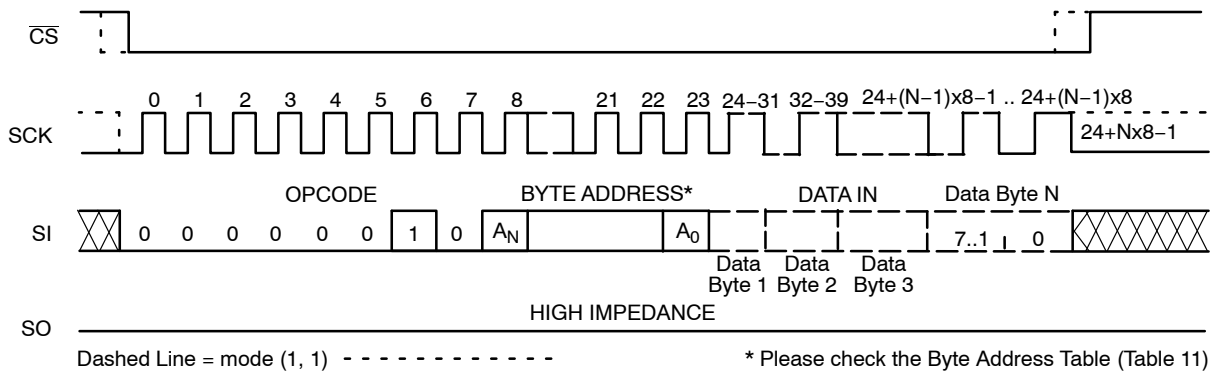

Figure 6. Page WRITE Timing
After sending the first data byte to the NV25128, the host may continue sending data, up to a total of 64 bytes, according to timing shown in Figure 6. After each data byte, the lower order address bits are automatically incremented, while the higher order address bits (page address) remain unchanged. If during this process the end of page is exceeded, then loading will "roll over" to the first byte in the page, thus possibly overwriting previously loaded data. Following completion of the write cycle, the NV25128 is
The additional 64-byte Identification Page (IP) can be written with user data using the same Write commands sequence as used for Page Write to the main memory array (Figure 6). **The IPL bit from the Status Register must be set (IPL = 1) using the WRSR instruction, before attempting to write to the IP.**